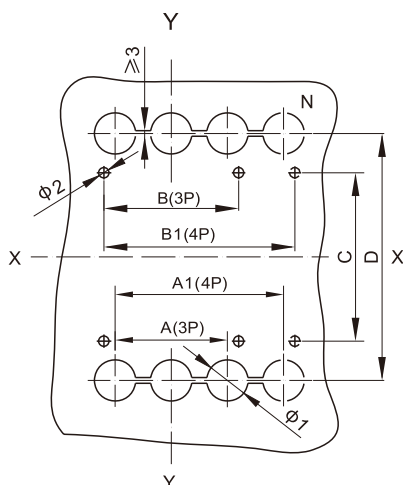

Figure 8 Rear wiring installation board hole-opening dimensions
(2) See Figure 8 for rear wiring installation board hole-opening dimensions (X-X, Y-Y are three-pole circuit breaker centers)